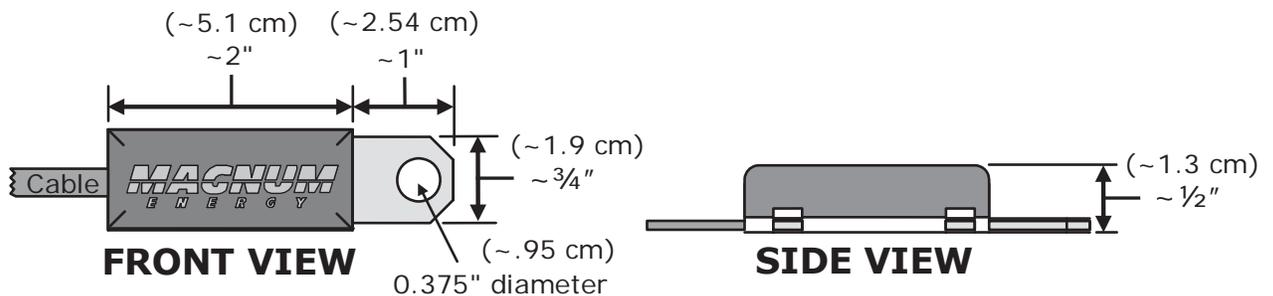

Figure 2-8, Battery Temperature Sensor
1. Remove the two Phillips screws on the AC access cover (Figure 1-3, Item 15) to access the internal AC terminal block (Figure 2-8).